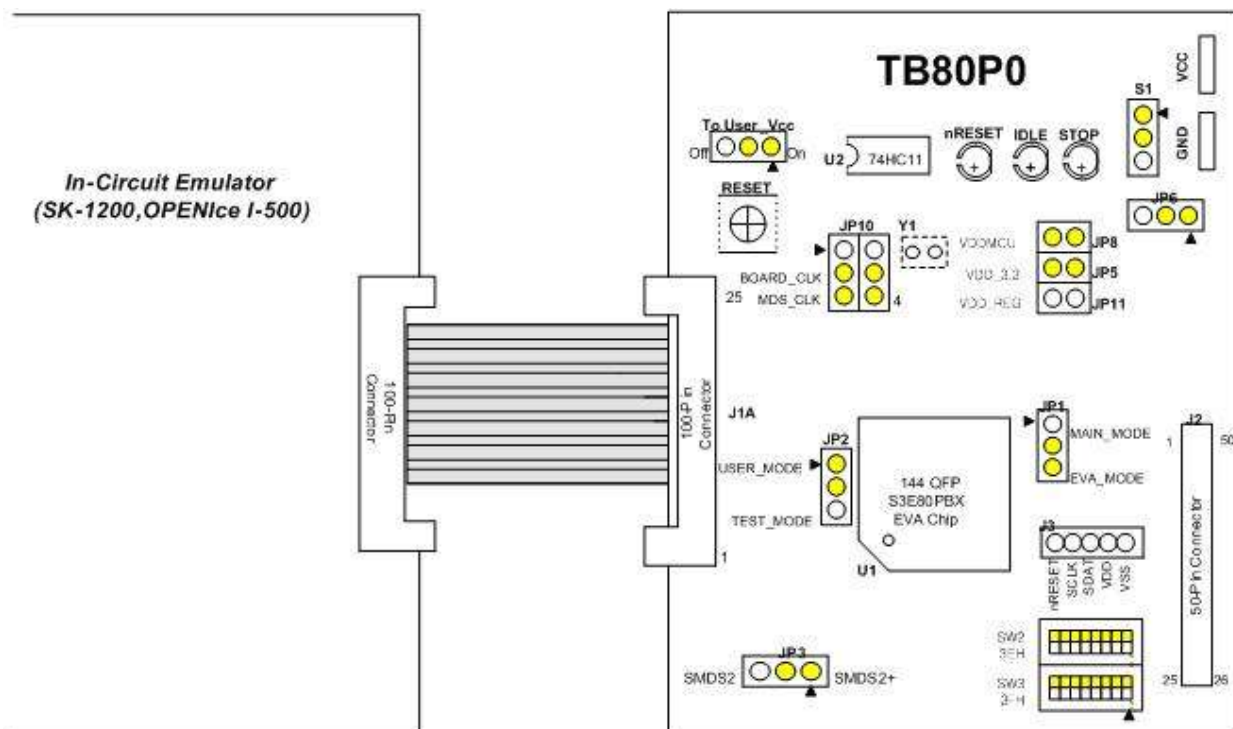

Figure 103. TB80P0 Target Board Configuration
Figure 103 shows how the TP80PB Target Board is configured. The symbol ◀ marks the starting point of the jumper signals.
- **Notes:** 1. The TB80PB target board should normally be supplied 3.3V. For target board operation, the power supply from the emulator should therefore also be set to 3.3V. If the power supply from the emulator is set to 5V, activate a 3.3V regulator on the target board by setting the related jumpers shown in Figure 103.